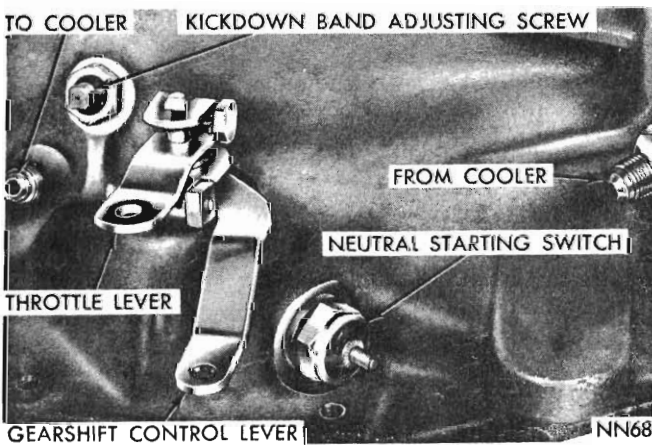

Fig. 17 - External controls and adjustments (typical view)
(2) Move transmission control lever (Fig. 17) all the way to rear (in park detent).
(3) With control lever on transmission in park position detent and selector lever in PARK position, tighten swivel clamp screw to 100 lbs./in.
(3) With control lever on transmission in park position detent, and selector lever in PARK position, tighten swivel clamp screw to 100 lbs./in.
(1) Place gearshift selector lever in PARK position and loosen the gearshift linkage control rod swivel clamp screw a few turns.
(3) With control lever on transmission in Park position detent and selector lever in PARK position, tighten swivel clamp screw securely.
(3) With control lever on transmission in Park position detent, and selector lever in PARK position, tighten adjusting lever bolt securely.